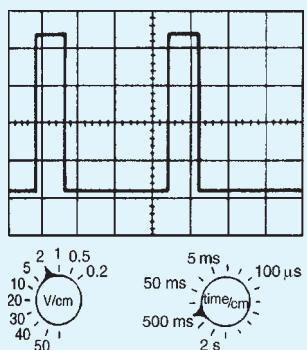

Figure 10.22
2. For the pulse waveform shown in Fig. 10.22, find (a) its frequency, (b) the magnitude of the pulse voltage. [(a) 0.56 Hz (b) 8.4 V]